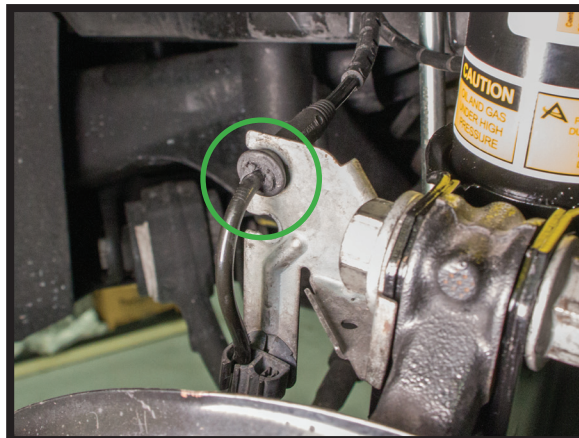

FIGURE 22
5. ATTACH THE ELECTRICAL WIRE TO THE RETENTION BRACKET ON THE AIR STRUT. (FIGURE 22)